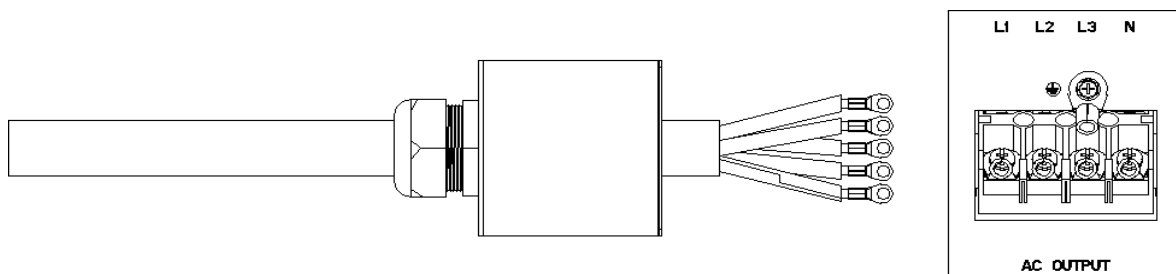

Fig. 19
2. The inverter has phase sequence self-adaption function, the sequence of three phase lines L1, L2 and L3 can not be differentiated. Use a screwdriver to fix L1, L2, L3, N and PE wires to the corresponding AC terminals, and ensure that PE wires are grounded reliably (Fig. 19).